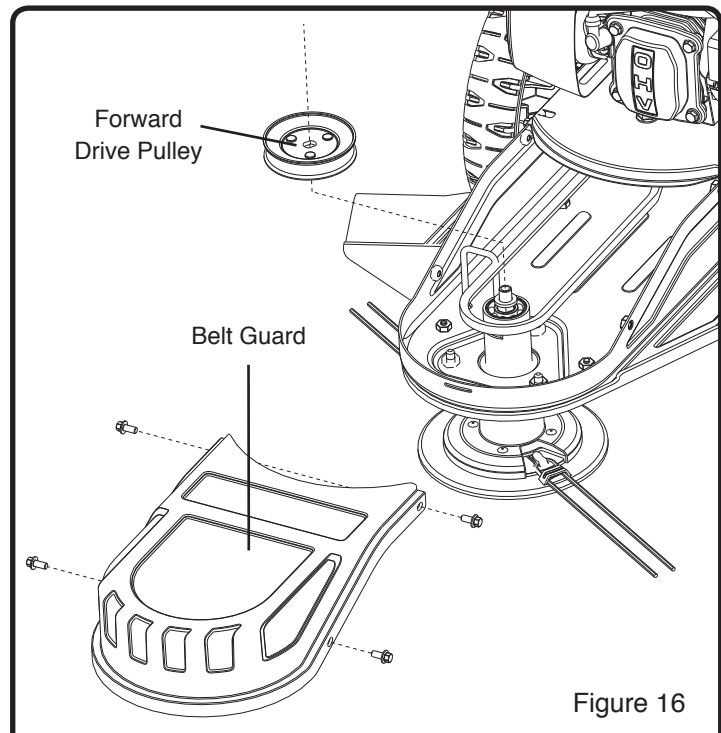

Figure 16
1. Remove the four fasteners that holds the plastic belt guard to the trimmer housing. (See Figure 16)
3. Remove the flange nut and washer that holds the forward drive pulley onto the trimmer head. (See Figure 16)